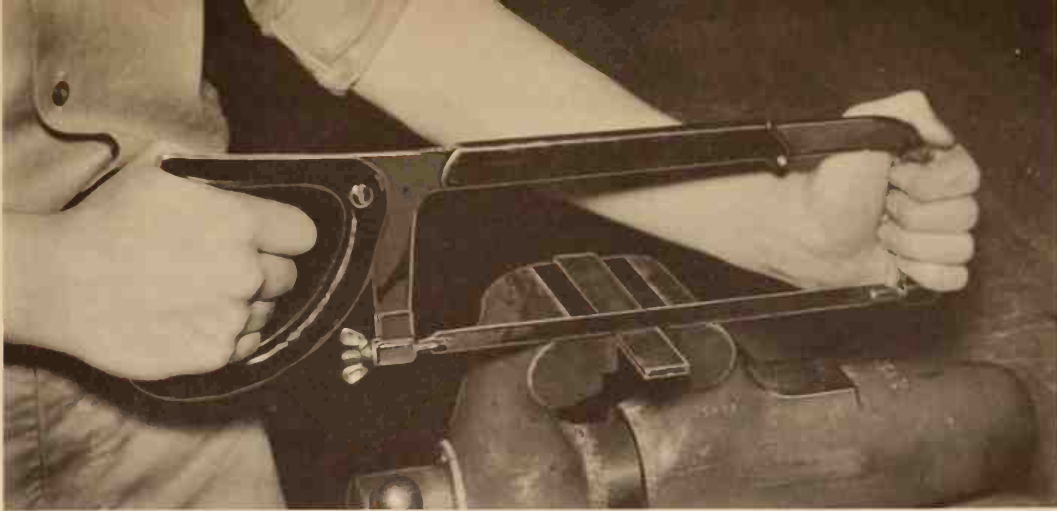

Fig. 4-24. Using hack saw. Apply pressure on forward stroke and release pressure on return stroke.
5. Start the cut with a light, steady forward stroke. At the end of each stroke, relieve the pressure and draw the blade straight back. After two or three strokes to get the cut started, take full-length strokes in a straight line. Do not allow saw to wobble. Hold the saw firmly with both hands. Continue sawing, using long steady strokes at a pace of 40 to 50 strokes per minute. Use just enough pressure on the forward stroke to make each tooth remove a small amount of metal, Fig. 4-24. Remem-